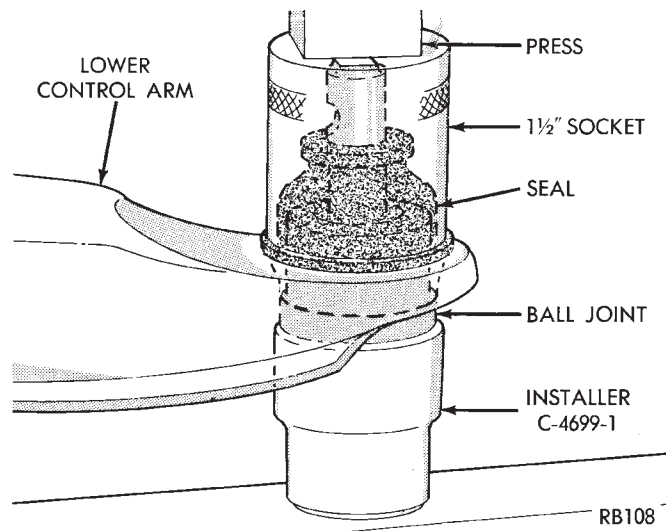

Fig. 4 Installing Ball Joint Seal
(1) Support ball joint housing with Installer, Special Tool C-4699-1 (Fig. 4). Position new seal over ball joint stud and against ball joint housing.
(2) With 1-1/2 inch socket, press seal onto ball joint housing until it is squarely seated against top surface of control arm as shown in (Fig. 4).